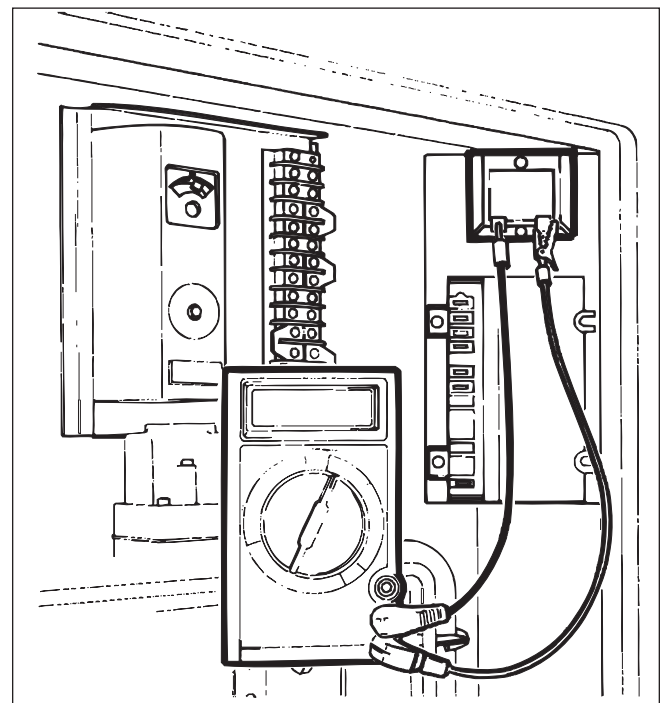

Figure 37. Testing the transformer.
2. Touch the other lead to the red wire terminal (see Figure 37). The voltmeter should read 24 to 28VAC.